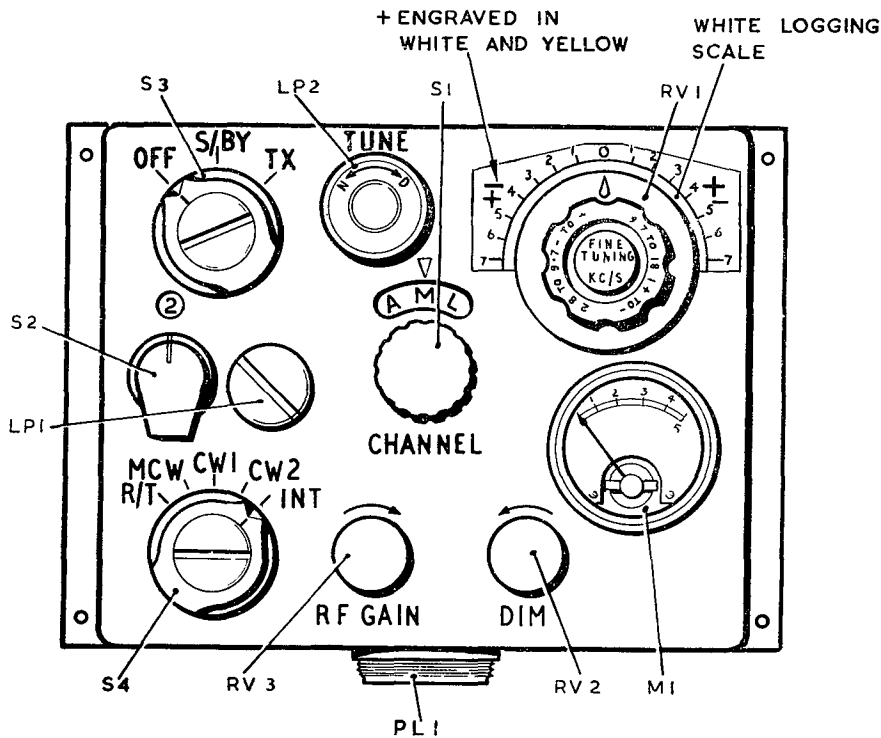

Fig. 1. Control unit (remote) Type 4189 front
2. No “local” control facilities are available and all power and service switching is made at the control unit. The controls and switches on the front panel are given against the circuit references as shown in fig. 1 and 4.
**FINE TUNING control.** The dial against this control reads error plus-or-minus in the range 2.8 to 9.7 Mc/s and minus-or-plus for 9.7 to 18.1 Mc/s., i.e. the calibration changes sign at 9.7 Mc/s. As indicated in fig. 1, the plus and minus signs are marked in pairs coloured yellow and white, respectively to correspond to the frequency ranges engraved on the control knob. A white band adjacent to the edge of the knob is intended as a logging scale for pencil marking.